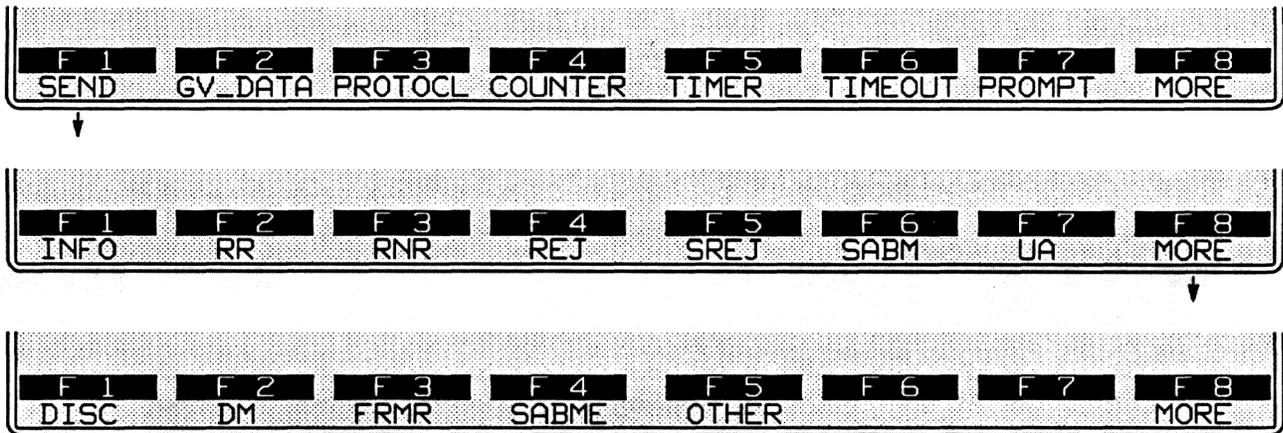
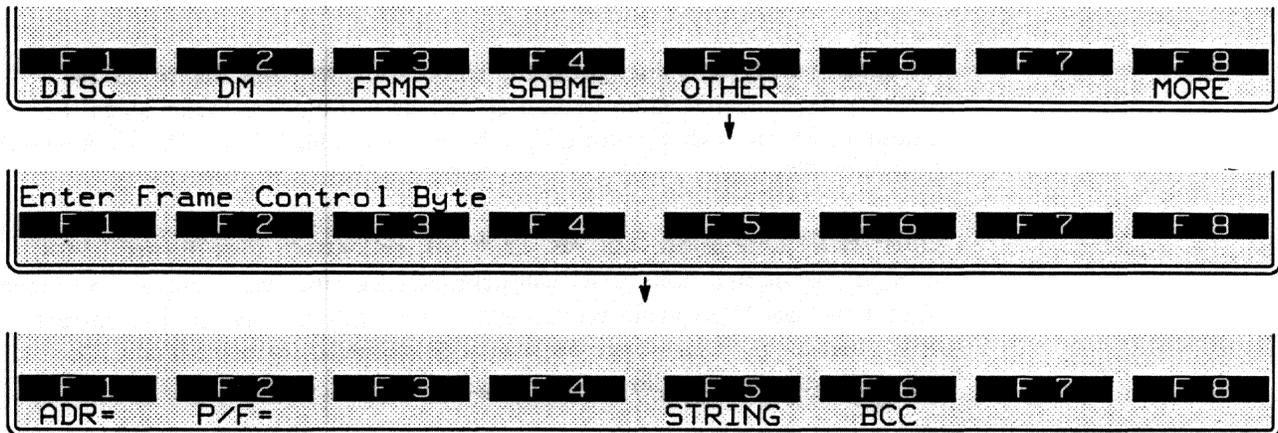

Figure 33-20 SEND actions always specify a frame type.
Figure 33-22 *SEND OTHER* actions always specify a *type* value.
type. (Only at Layer 1 can data be generated as a simple character string without any protocol building blocks.) The complete set of frame types is given in Figure 33-20.
4. *Other frames.* Any frame type may be entered in a SEND action as a hexadecimal value instead of by name. Press the softkey for OTHER, on the bottom rack in Figure 33-20. Enter the hex value in the form of two alphanumeric. Then press the softkey for ADR= (Figure 33-22) and enter an address value. Here is a DISconnect command entered as a SEND OTHER action: